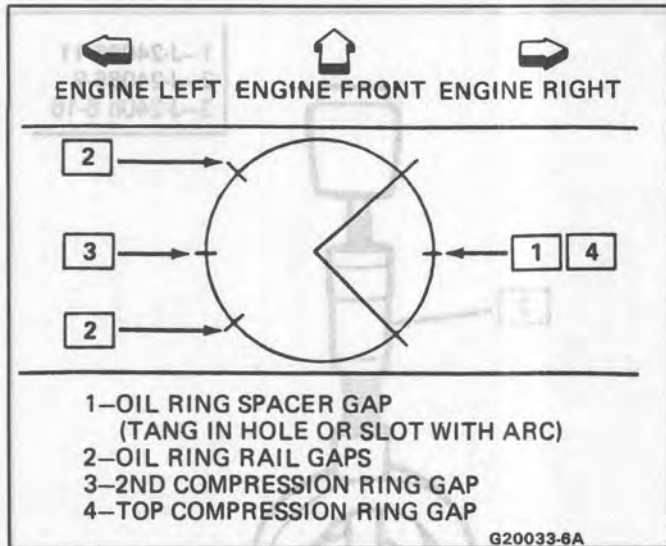

Figure 37 Piston Ring Gap Locations
- In order to provide an effective compression seal, the ring gaps must be staggered (Figure 37).